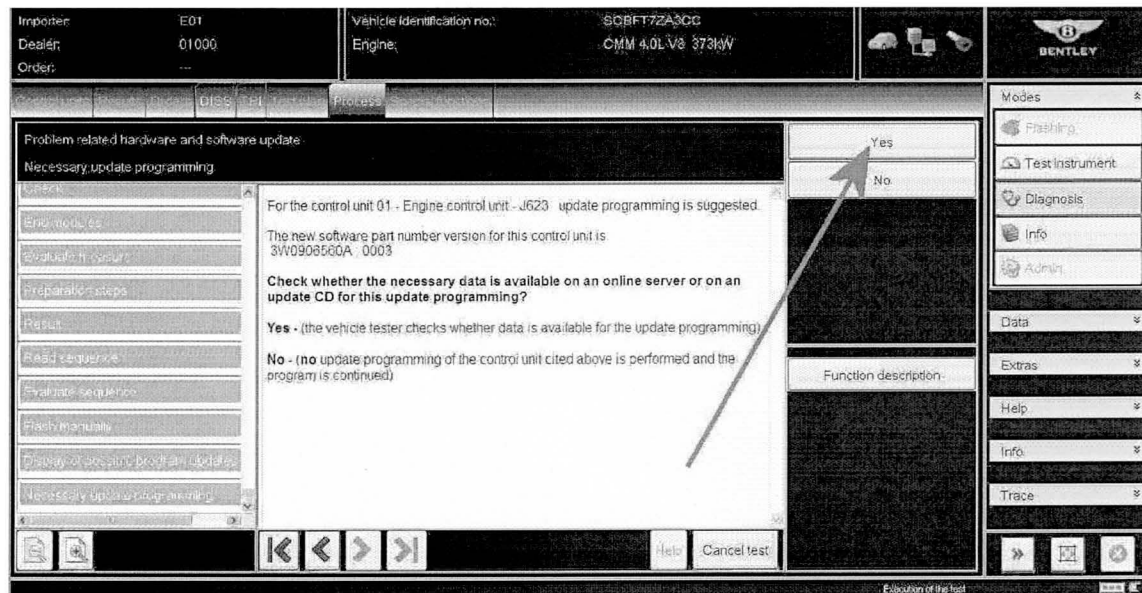
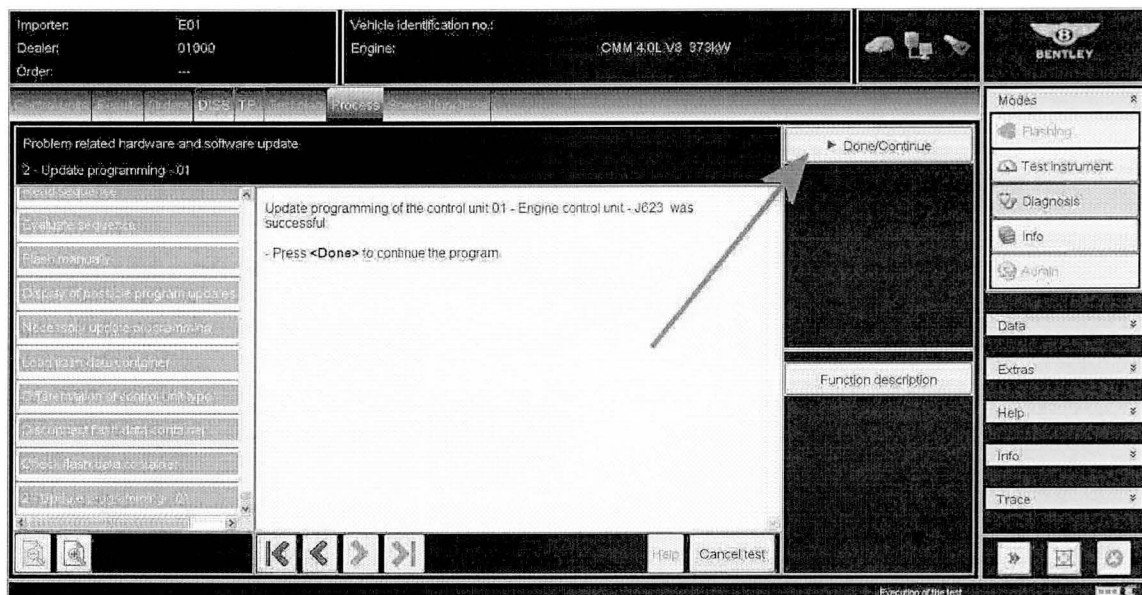

Figure 10
Figure 11
- When requested, enter your GEKO user ID and follow all on screen prompts until you arrive at Figure 10.
- At Figure 10 select **Yes** and follow all on screen prompts until the update programming of the control unit 01- Engine control unit – J623 was successful as shown in Figure 11
- Referring to Figure 11 select Done/Continue and follow all on screen prompts until program end.